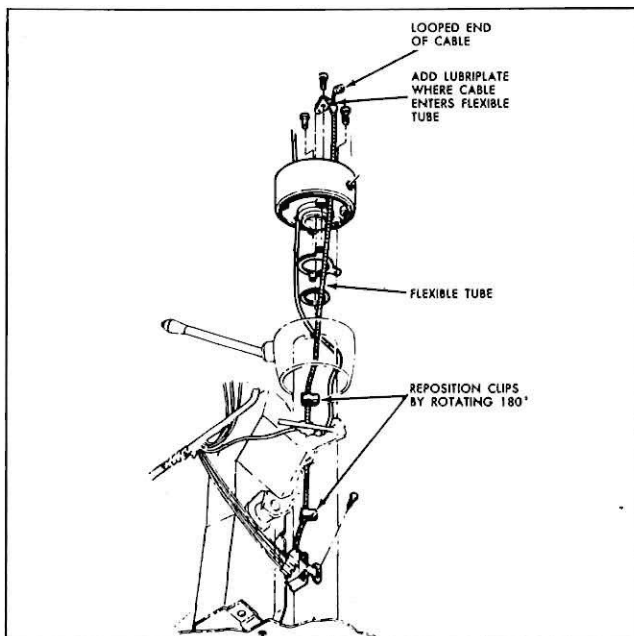

Fig. 12—Repositioning Clips 180°
9. Remove two (2) clips holding cable on steering post, rotate clips 180°, then reinstall the clamps (fig. 12).